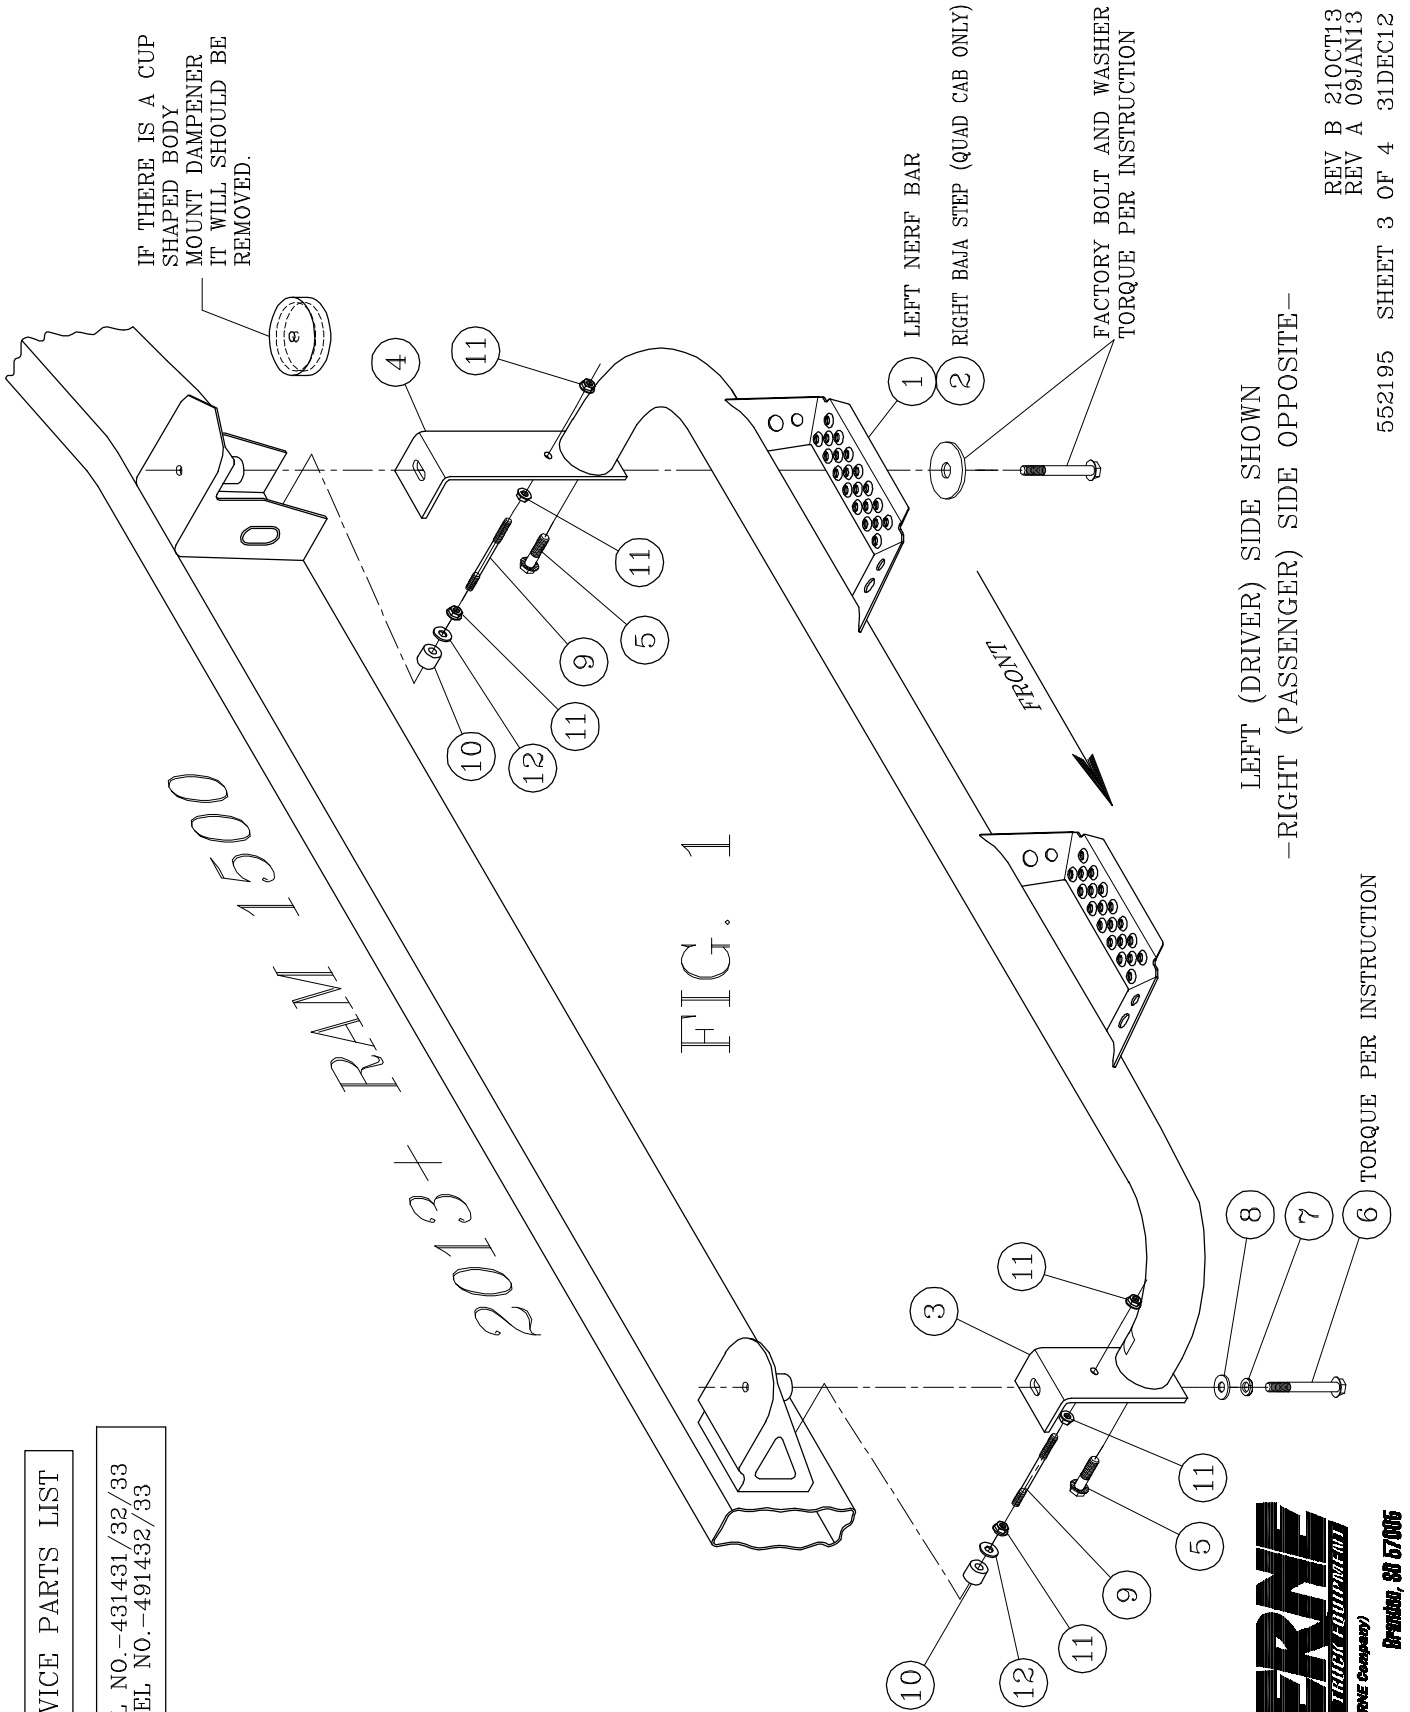

FIG. 1
- 2.1. PLACE BAJA STEPS ON A FLAT SURFACE AND ATTACH THE MOUNTING BRACKETS (ITEM #3, & 4) AS SHOWN IN **FIG 1, & 2**. **NOTE: THE LUVERNE SERIAL NUMBER DECAL GOES ON THE FRONT LEFT HAND (DRIVERS) SIDE.**
- 5.2. ~~2013-~~ ON THE REAR BODY MOUNT IF THERE IS CAST IRON DAMPENER PLEASE REMOVE (THIS IS NOT REUSED). PLACE FACTORY BODY MOUNT BOLT AND WASHER THROUGH BAJA-STEP BRACKET AND THE BODY MOUNT BUSHING AS SHOWN IN **FIG.1**.